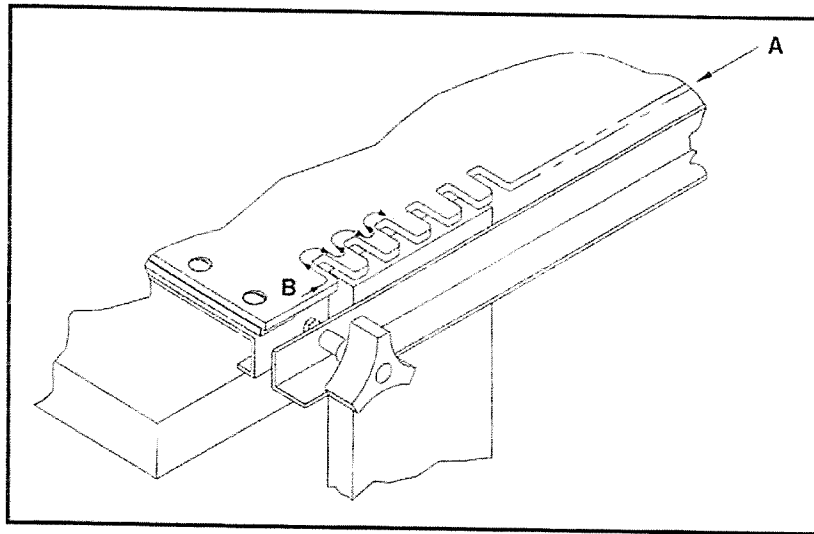

Fig. 13
2. Start the motor and make the first cut along the entire outside edge of the finger templet, from right to left, in the direction of the arrow (A) Fig. 13. This will prevent chipping of the edge of the drawer piece when the router is moved in and out of the templet.
3. Now, carefully move the router from left to right around the templet outline, in and out of the slots as shown by arrow (B) Fig. 13.